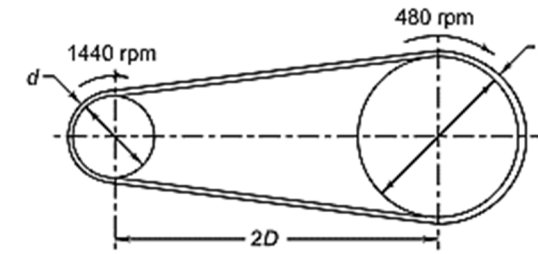

Figure 5
- i. The layout of a leather belt drive transmitting 15 kW of power is shown in Figure 5. The centre distance between the pulleys is twice the diameter of the bigger pulley. The belt should operate at a velocity of 20 m/s approximately and the stresses in the belt should not exceed 2.25 N/mm². The density of leather is 0.95 g/cc and the coefficient of friction is 0.35. The thickness of the belt is 5 mm. Calculate: (a) the diameter of pulleys; (b) the length and width of the belt; & (c) the belt tensions. **5** 03 01 05